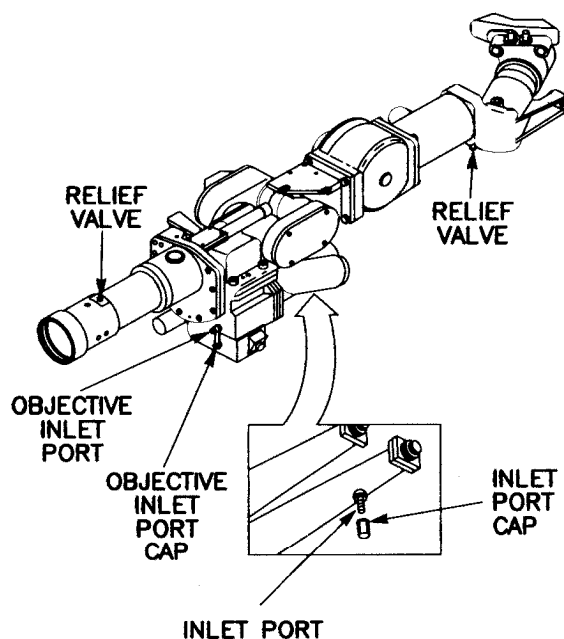

Figure 3-65 M127 Articulated Telescope
c. Articulated Telescope, M127 (fig. 3-65).
(1) Eyepiece Assembly.